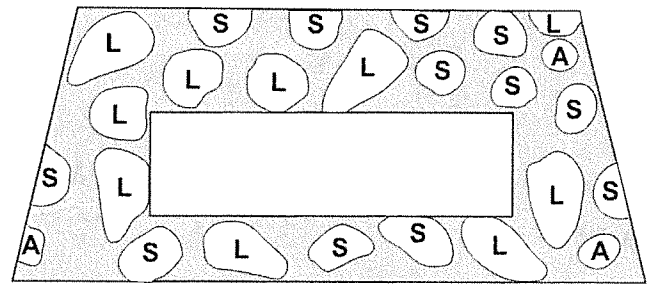

Figure 6.25. Baseboard Pine Cone placement;
2. Arrange the large and small pine cones on the base board as shown in fig. 6.25.